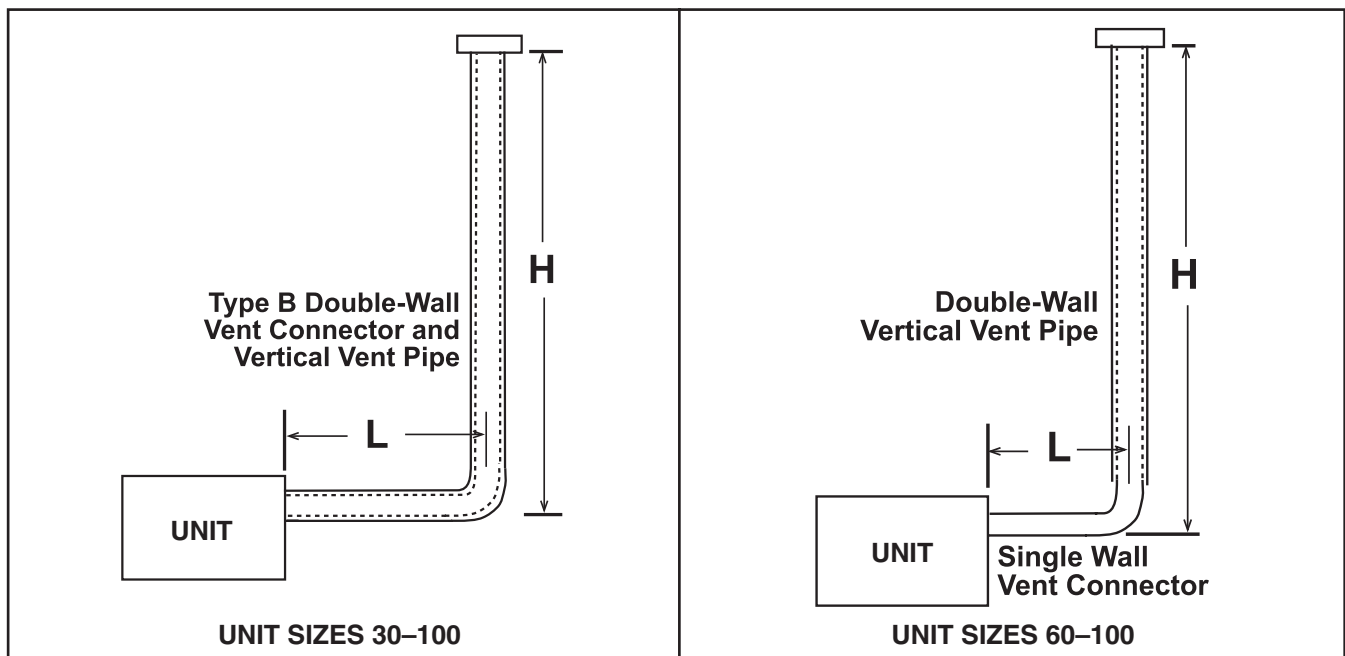

Figure 16. Typical Category I Dedicated Vent (Refer to Table 17)
1. Select vent pipe and vent connector for Category I vent (see Figure 16). Note that unit sizes 60–100 may use single- or double-wall vent connector.
H x L (See Figure 16) Dimension (Feet (Meters))